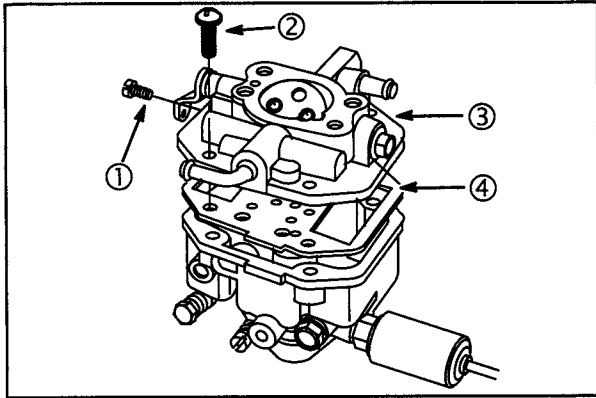

Fig. 98
1. Remove pilot jet (1), Fig. 98.
2. Remove four screws (2) and upper body (3). Discard gasket (4).